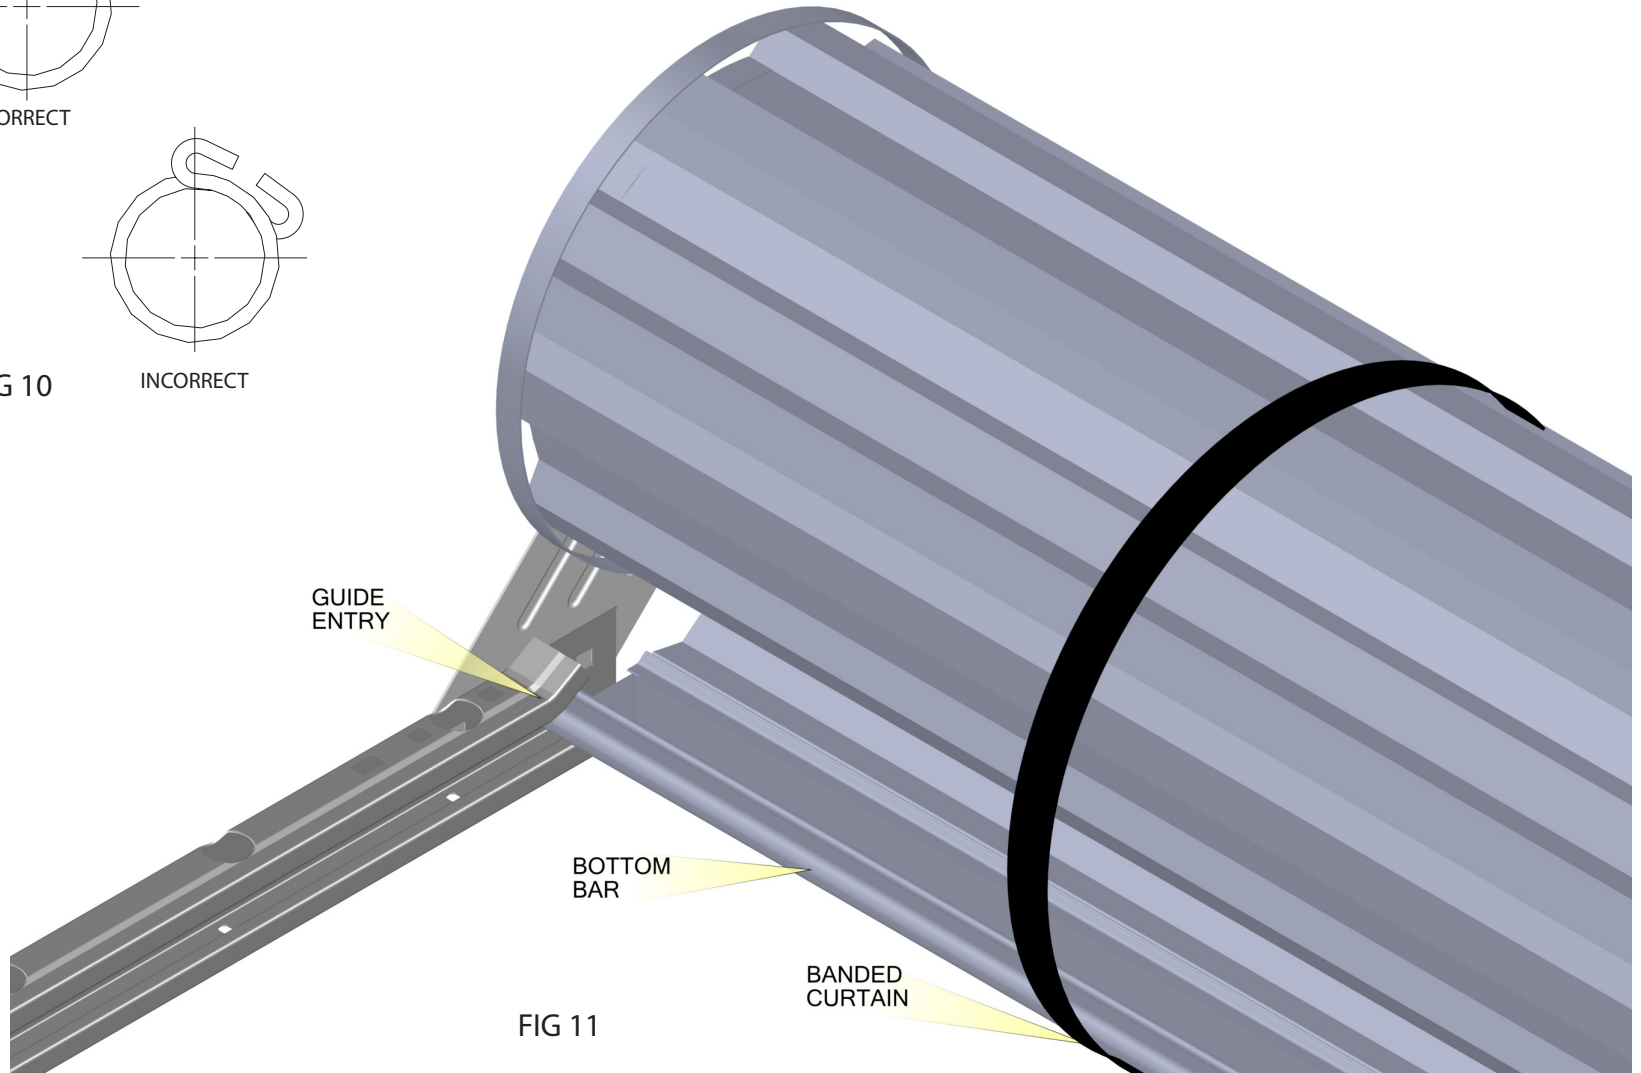

FIG 11
- Rotate the curtain so that the bottom bar is located above the guide entry line. See Figure 11.